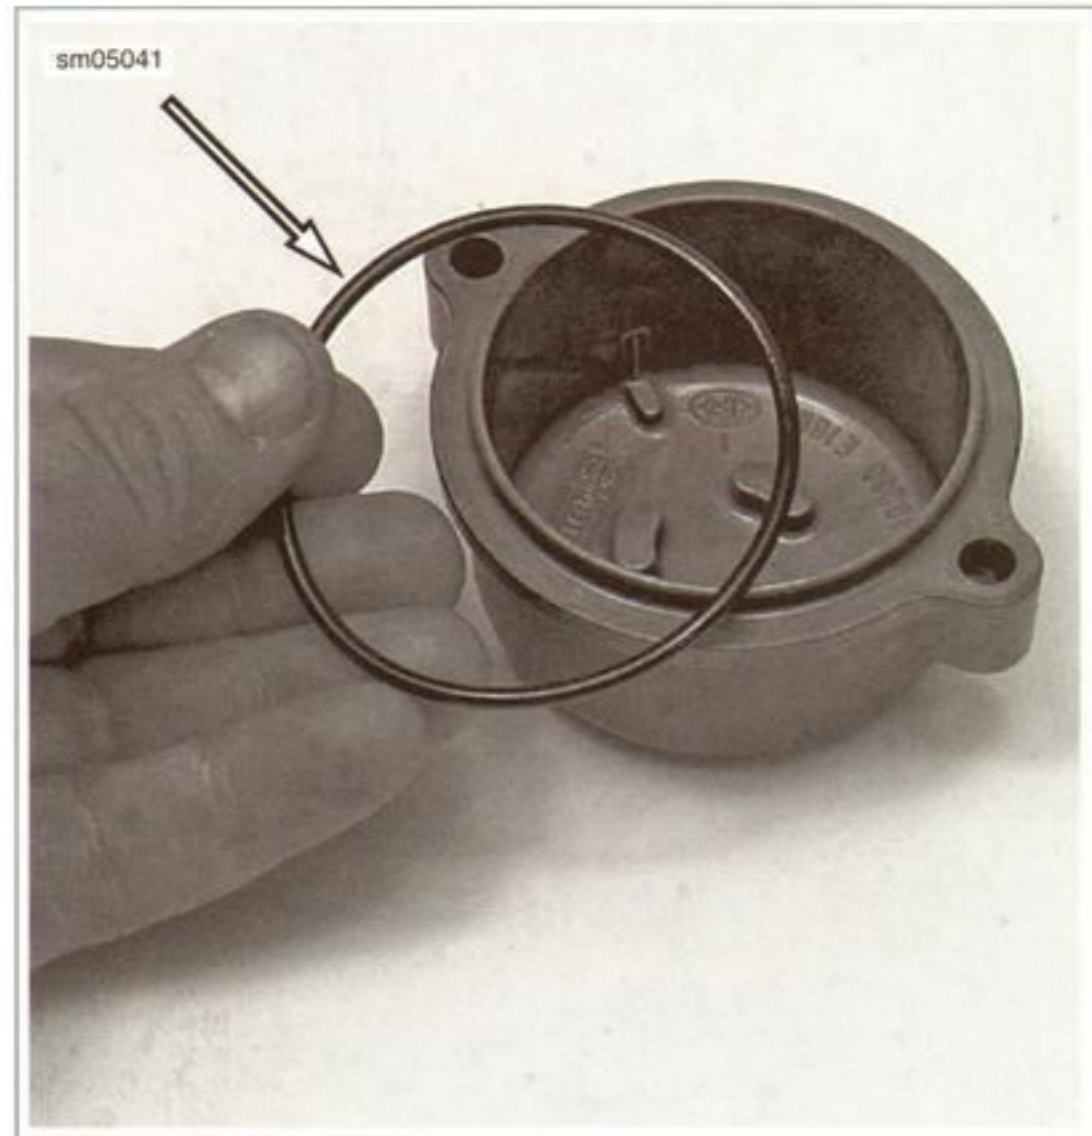

Figure 3-136. Oil Filter Cover O-ring
4. See Figure 3-136. Apply a light film of clean engine oil to a **new** O-ring and fit the O-ring to the cover.